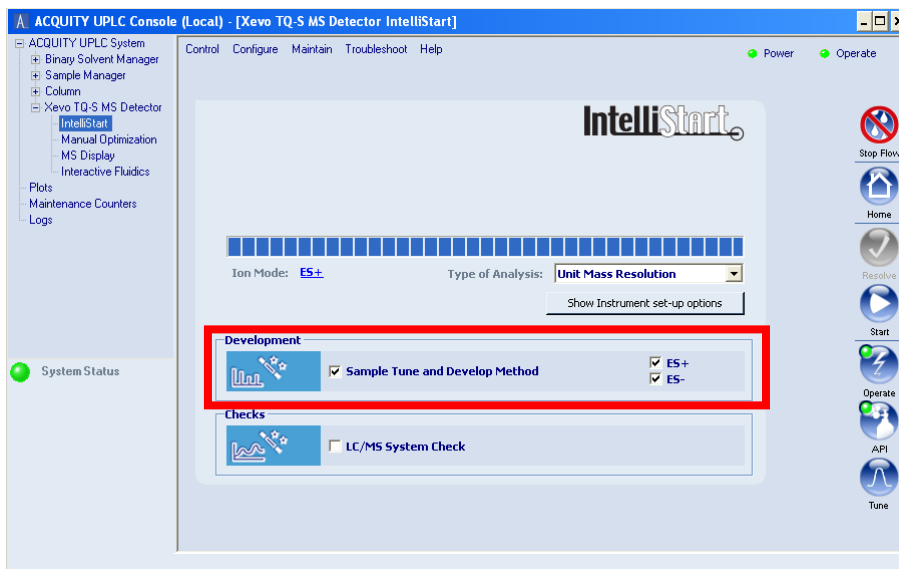

Figure 23 - The sample tune and development method page
- a. Set the initial horizontal position of the probe by setting the vernier screw on the top of the source housing (X) to 5 on the scale.
- b. Set the initial vertical position of the probe by setting the collar on the top of the probe (Z) to 7 on the vernier scale.
9. Select the **Sample Tune and Develop Method** check box and ensure that both **ES+** and **ES-** check boxes are selected as shown in Figure 23.